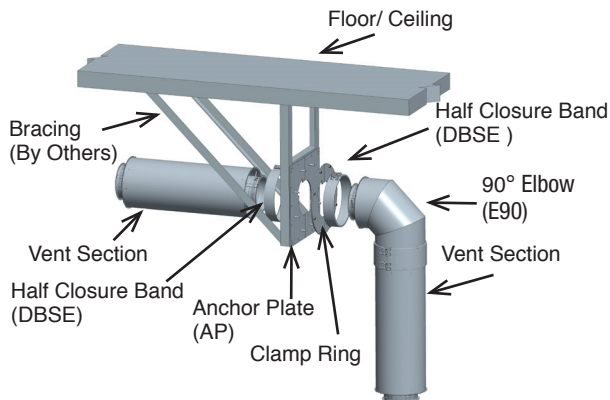
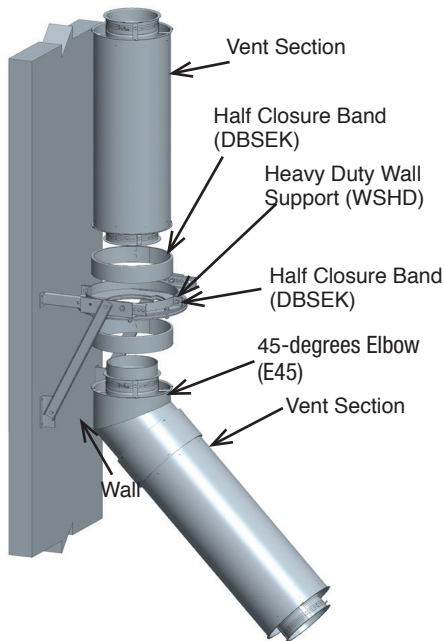

Figure 56- Elbow with an Anchor Plate (AP)
Figure 57- Elbow with a Heavy Duty Wall Support
Elbows are to be supported on one end with either a fixed support: Anchor Plate (AP), or a Heavy Duty Wall Support (WSHD). See **Figure 56** for an example with an AP and **Figure 57** for an example with a (WSHD).